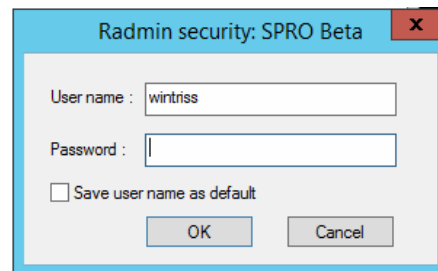

Figure 3. Radmin Viewer login
4. Enter password in the box that opens, Figure 3. Click OK.